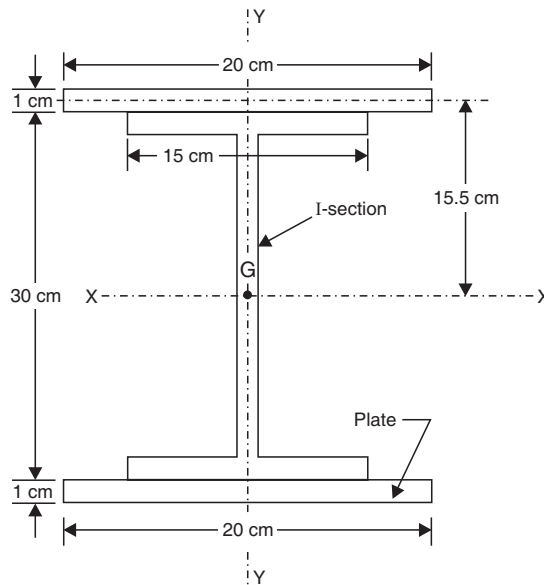

Fig. 5.23
**Sol.** Refer to Fig. 5.23.
Since, the section is symmetrical about both  $xx$  and  $yy$  axes, therefore the c.g. of the whole section will lie at  $G$  as shown in Fig. 5.23.